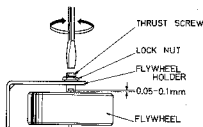

Fig. 5.7
Refer to Fig. 5.7 and item 3.2, cabinet removal procedure. Adjust the flywheel clearances to be 0.05 to 0.1 mm. After adjustment is completed, lock the lock nut.